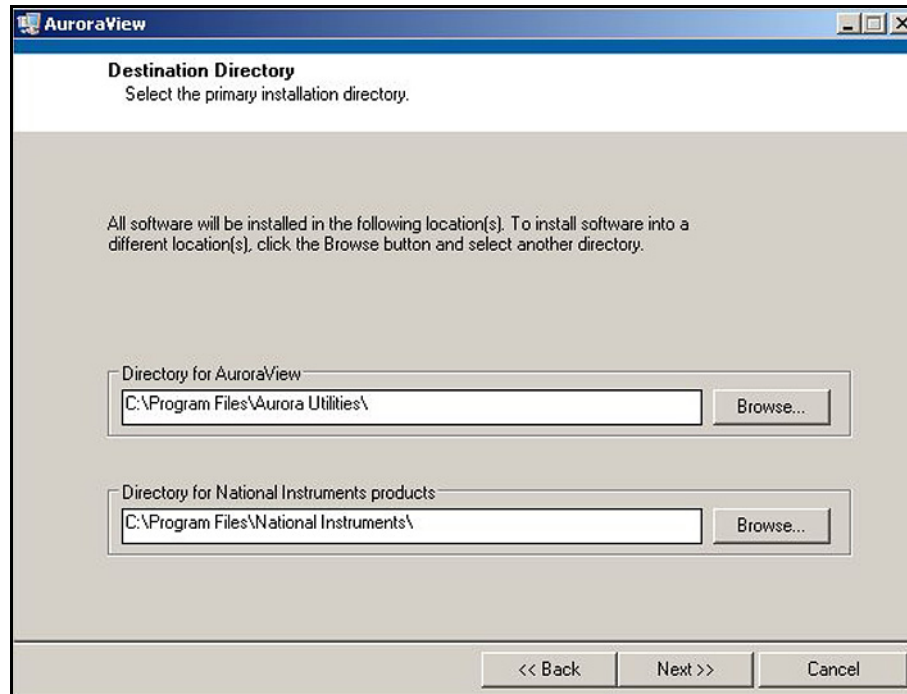

Figure 23: Destination Directory
- The next screen (see *Figure 23* below) provides the opportunity to change installation locations if desired. When ready, click Next.